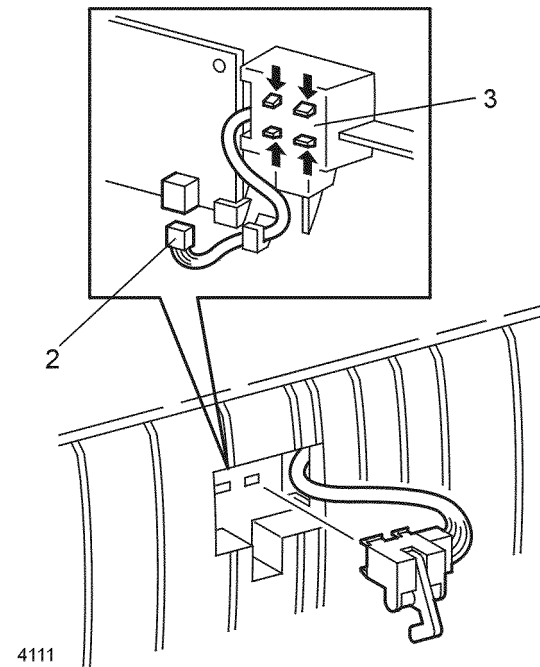

Figure 1 Sensor Assembly
2. Disconnect P/J512 from the Duplex PWB (Figure 1).
3. Release the four locking tabs and remove the sensor (Figure 1).